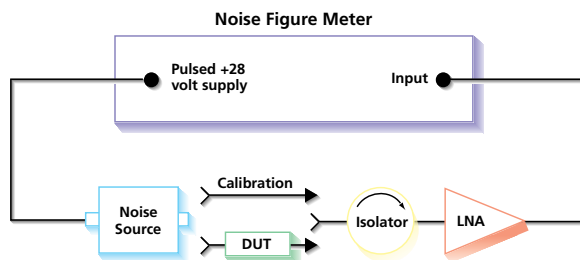

Figure 1. RF Measurements
Noise Com's NC346 and NC5000 Series are designed to be used with an HP8970 or similar Noise Figure Meter. The preferred setup for RF frequencies within the range of the meter is shown below in Figure 1. The isolator and LNA are added to reduce measurement uncertainty. The isolator reduces reflected power between the DUT and the test setup. The LNA reduces the noise figure of the test setup. For the wideband case, the isolator may be replaced with a low VSWR attenuator of approximately 6 to 10 dB.
3. To calibrate the setup, connect the calibrate path as shown in Figure 1. Press "PRESET" to put the meter in a known state. Then enter the start frequency by pressing "START FREQ", frequency in MHz, "ENTER". Then enter the stop frequency by pressing "STOP FREQ", frequency in MHz, "ENTER". Then enter the step size by pressing "STEP SIZE", step size in MHz, "ENTER". Then press "CALIBRATE". Press "NOISE FIGURE AND GAIN" to measure the corrected gain and noise figure of the setup. This should be close to 0.
4. To make a corrected measurement of the DUT, connect the output of the noise source to the input of the DUT, and the output of the DUT to the input of the test setup as shown in Figure 1. Press "FREQUENCY", enter the frequency in MHz, and press "ENTER". The meter will display corrected noise figure and gain.